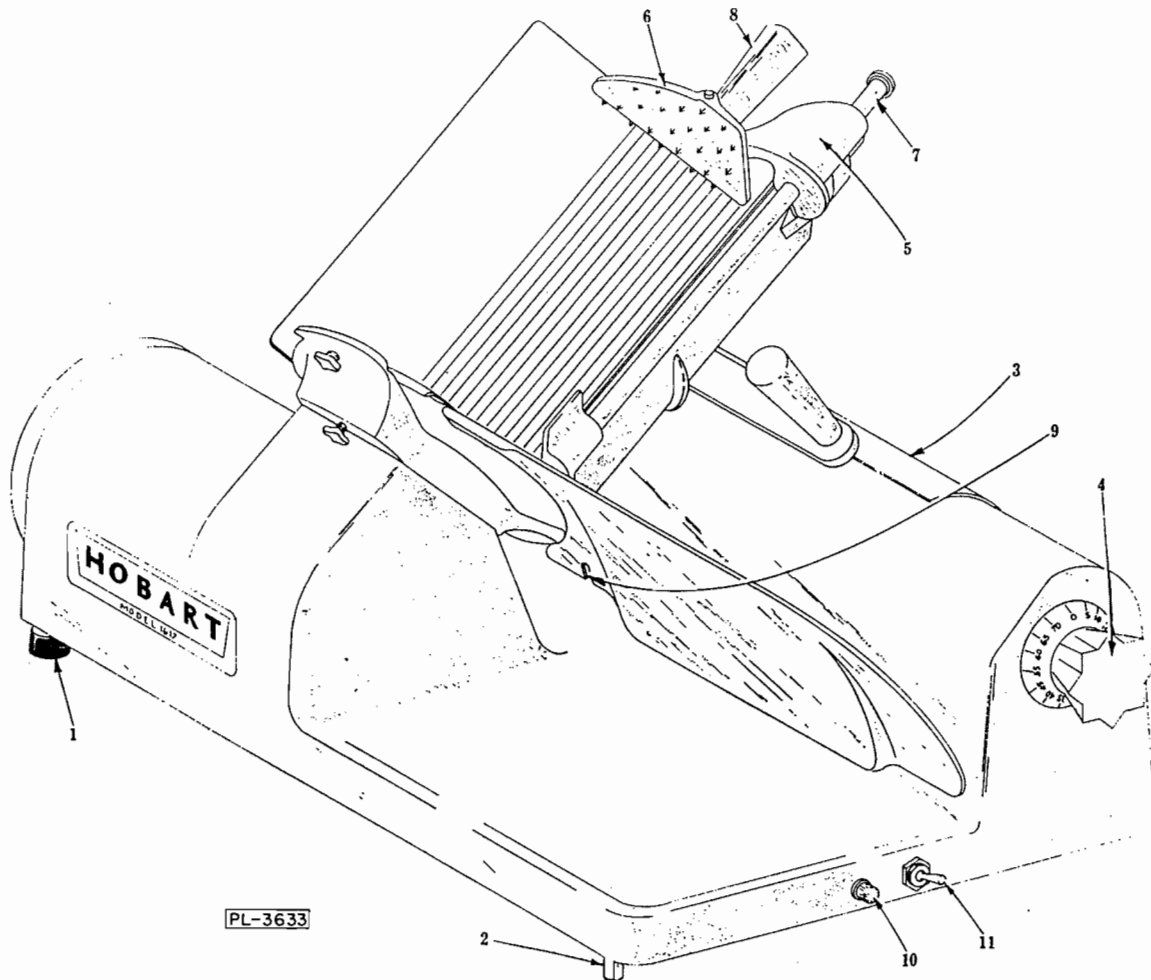

FIG. 1
When the machine is packed for shipment, the three rubber feet (1, Fig. 1) and the one helper foot (2, Fig. 1) are taken off, to permit bolting the base to the shipping board. The feet are shipped in a cloth bag and can be quickly installed (screw the helper foot to the end of its thread at the corner of the base as shown (2, Fig. 1)). It is not necessary to fasten the slicer down, in ordinary service, as the cup-shaped rubber feet will keep it from slipping on the table.
Before making electrical connections, CHECK THE SPECIFICATIONS ON THE NAME PLATE (3, Fig. 1) TO MAKE SURE THEY AGREE WITH THOSE OF YOUR ELECTRICAL SERVICE.
The knob or dial (4, Fig. 1) adjusts the thickness of the slices cut. The numbers on the dial do not indicate actual measurements, but are
When not actually slicing, keep the slice adjusting dial at zero. The gage plate will then be in line with the cutting edge of the knife and guard it. A neon pilot safety light (10, Fig. 1) gives warning that the slicer is running, when the operator is not present.
The hub of the meat grip arm (5, Fig. 1) has a shape which prevents swinging the grip (6, Fig. 1) out of the carriage tray to a position where it could mar the finish of the machine. Do not try to force this arm. The grip moves freely at the proper positions and it must be at the top of the slide rod (7, Fig. 1) to swing clear
- a. Lift the grip to the top of the slide rod (7, Fig. 1).
This machine has been so designed that a minimum effort is required to hold and slice, pieces of various shapes and sizes. The shape of the carriage and inclined position make it unnecessary to employ holding devices for large items of regular shape, such as cold boiled ham, loaf meats and picnic cuts. For holding odd shapes or short end pieces, use the meat grip (6, Fig. 1). Hold the handle (8, Fig. 1) in your right hand, and press the grip down on the meat at a convenient location. The grip swivels so that the spiked surface can be adjusted to the most advantageous position for holding. The carriage can then be moved back and forth with the same hand that holds the grip. The left hand is then free to receive the slices as they come from the knife. The slices may be stacked on the tray surface of the base, which is easily kept clean. A loose tray or platter may be used if so desired. The slicer is turned "ON" and "OFF" by the switch (11, Fig. 1).
- e. Unscrew the thumb screw on the sharpener until the sharpener slips upward into the slot (9, Fig. 1) at the bottom of the gage plate. Push the sharpener firmly upward, with the right hand, to remove any rocking tendency. Tighten the thumb screw with the left hand.
Keep the meat grip slide rod (7, Fig. 1) clean but do NOT lubricate it.